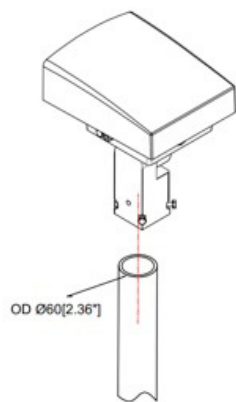

FIG. 10
1. Put the light onto the lamp post after connect wires (FIG.10).